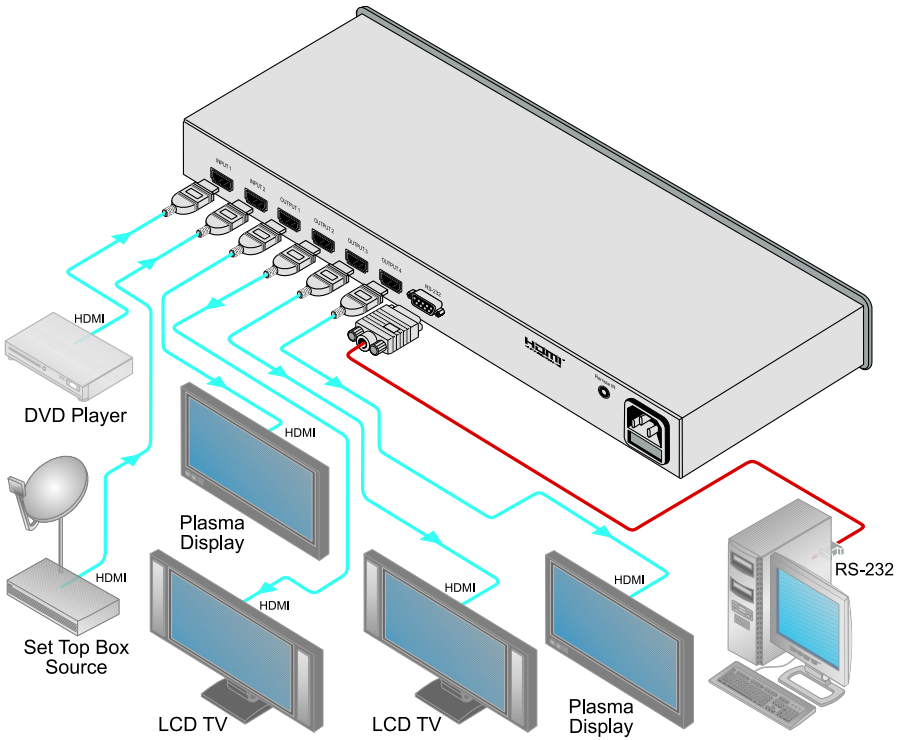

Figure 2: Connecting a VM-24HDMI 2 Input 1:4 HDMI Distributor
To connect the **VM-24HDMI**, as illustrated in the example in Figure 2, do the following¹:
4. Connect the power cord to the mains electricity (not shown in Figure 2).
4 Only connections from the first two acceptors and the last two acceptors are shown in Figure 2